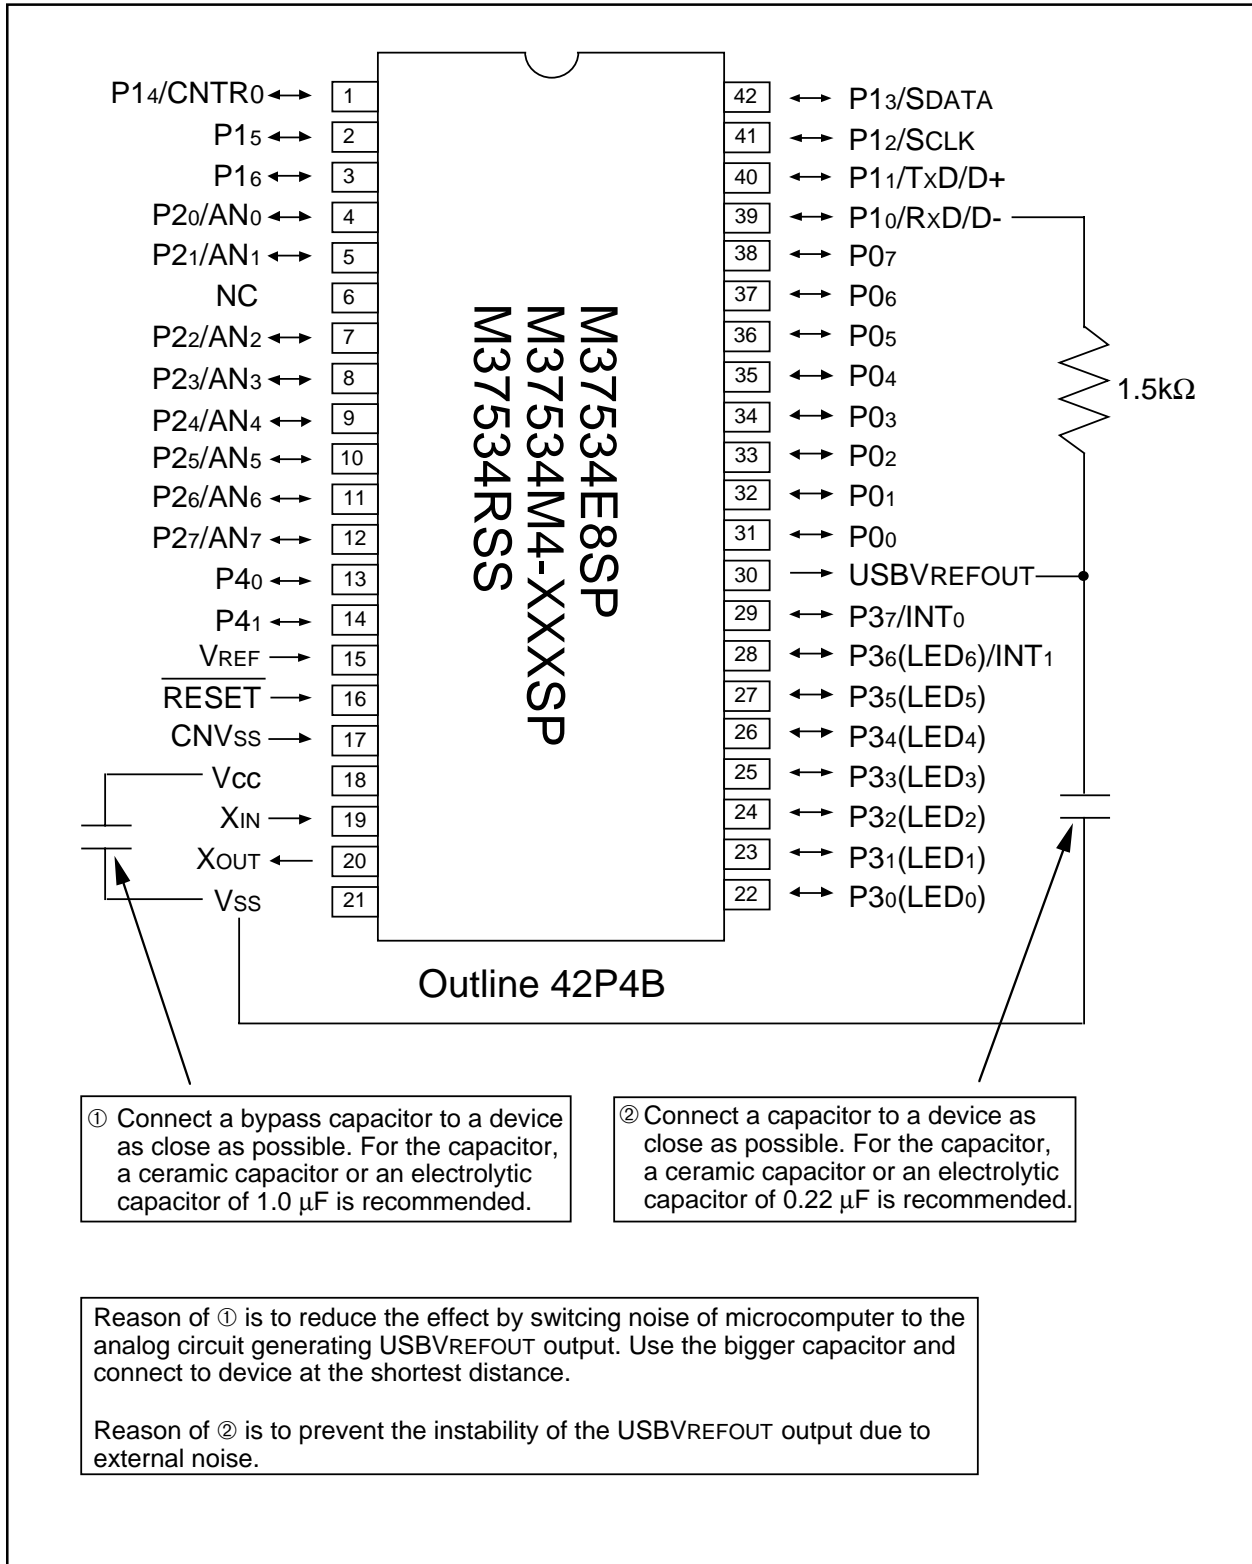

Fig. 53 Handling of Vcc, USBVREFOUT pins of M37534E8SP, M37534M4-XXXSP, M37534RSS
| 1.1 | Page 2: package type revised; 32P6B-A → 32P6U-A Page 5: package type revised; 32P6B-A → 32P6U-A Page 8 package type revised; 32P6B-A → 32P6U-A Page 34: Description revised; $\overline{\text{RESET}}$ "L" pulse width 2 μs → 15 μs Page 43: Table 11 revised; Absolute accuracy (excluding quantization error) → Linearity error Page 44: Table 12 revised; $t_w(\overline{\text{RESET}})$: 2 → 15 Page 48: Fig. 51 Description ①, ② revised Page 49: Fig. 52 Description ①, ② and package type revised; 32P6B-A → 32P6U-A Page 50: Fig. 53 Description ①, ② revised Page 51: Package outline revised; 32P6B-A → 32P6U-A | 000614 |